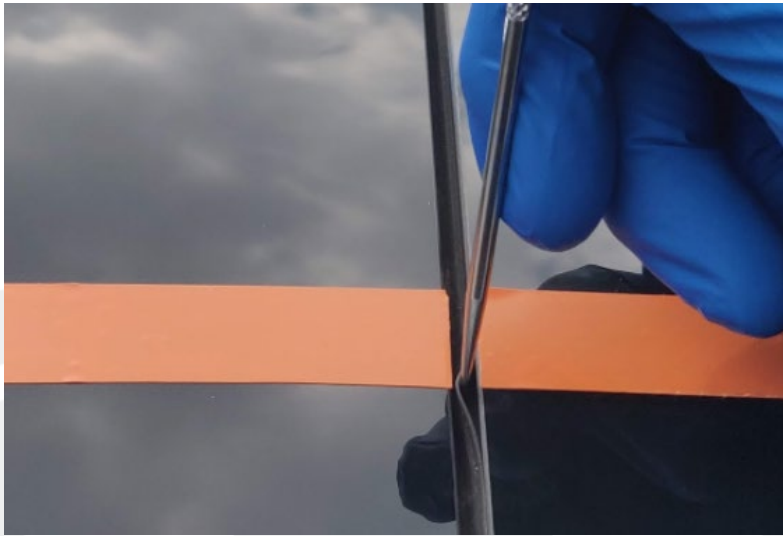

Figure 10
- Use a pick tool to open the seal between the roof panel and the backlight glass to expose the roof panel (Figure 10).